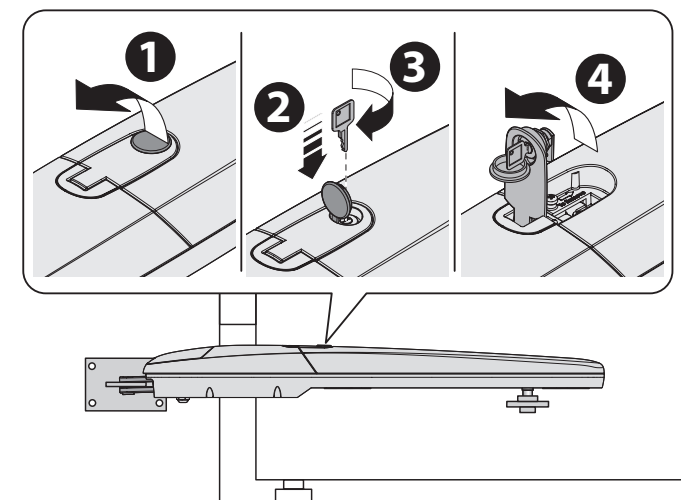

Fig. 8
01. Release the gearmotor as shown in fig. 8;
- 02.** Unblock the gear motor as shown in **fig. 8**;